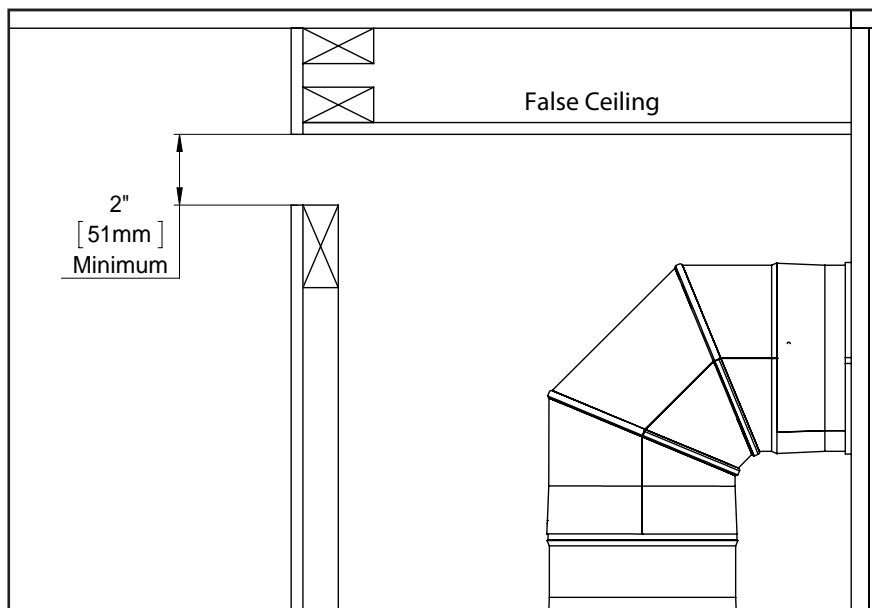
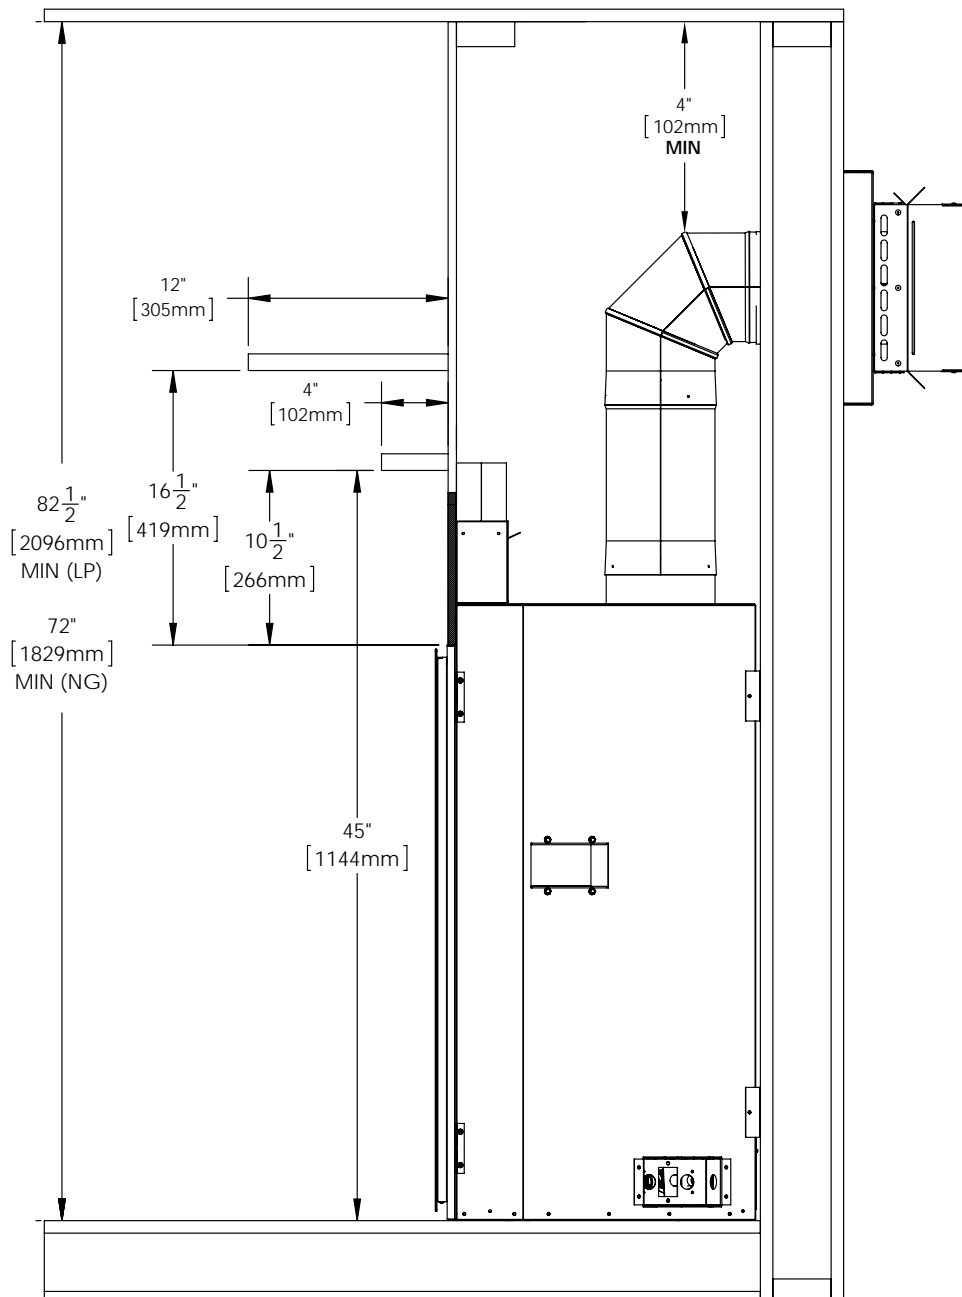

Figure 46: False Ceiling
Figure 48: Flat Wall Installation
**Optional: False Ceiling** - If your ceiling dimension is greater than the minimum (See Figure 48) You may want the CSS Air discharge lower on the wall. To do this a false ceiling is required to properly evacuate the heat from the chase. (See Figure 46).